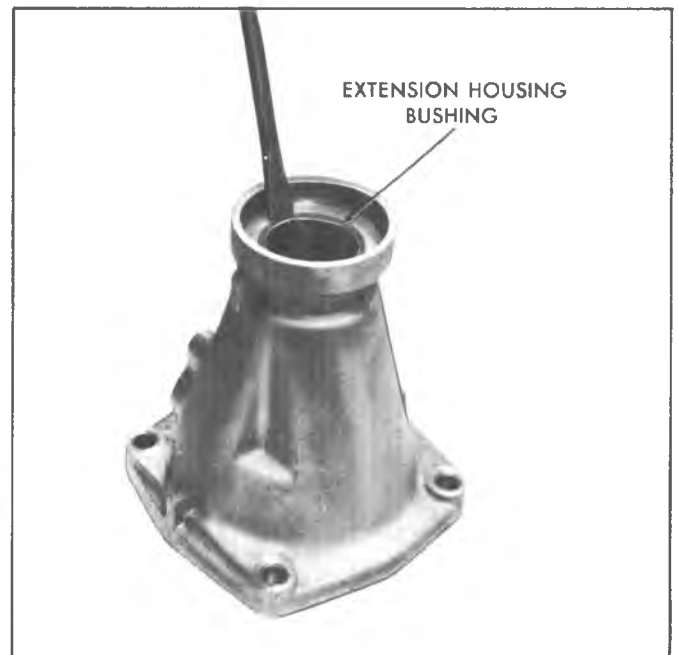

Fig. 5N--Removing Extension Housing Bushing
4. If extension housing bushing is to be replaced, collapse bushing (fig. 5N) and refer to Figure 94N for installation.